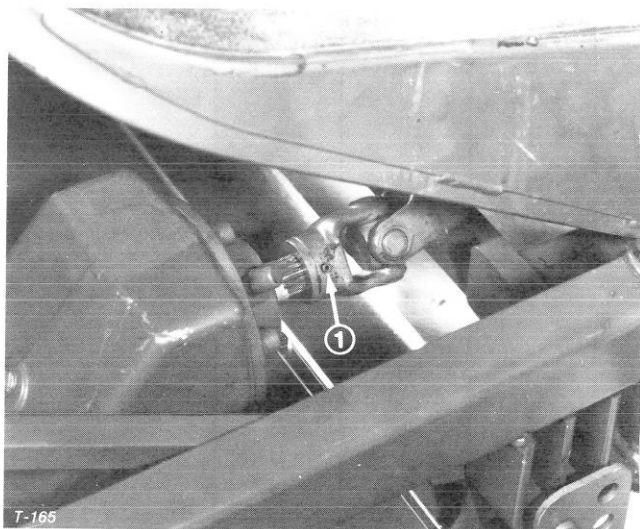

Figure 22
3. Lower cutting unit, remove pins from height-of-cut brackets (4).
4. Drive roll pin out of yoke and input shaft of gear box (Fig. 22). Slide yoke off the input shaft. If traction unit will be used without the cutting unit, remove the PTO shaft from the traction unit; refer to PTO Shaft Removal, page 12.